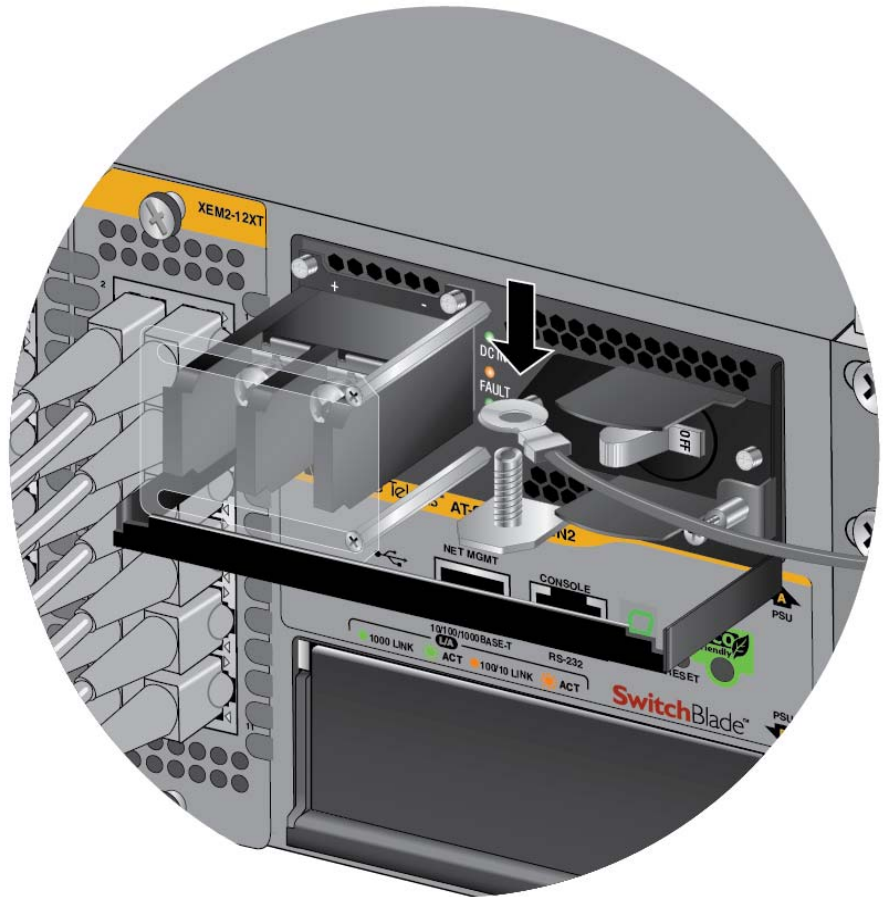

Figure 56. Attaching the Grounding Lug and Wire to the Grounding Post
5. Attach the grounding lug and wire to the grounding post. Refer to Figure 56 on page 89.